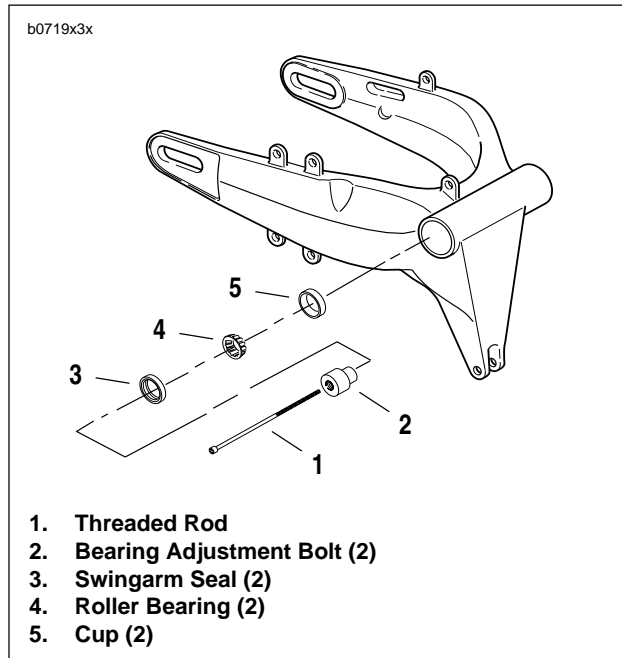

Figure 2-75. Swingarm Bearings
1. See Figure 2-75. Remove and discard both swingarm seals (3).
2. Remove roller bearings (4).
- See Figure 2-75. Install **new** swingarm seals (3) flush to the swingarm.